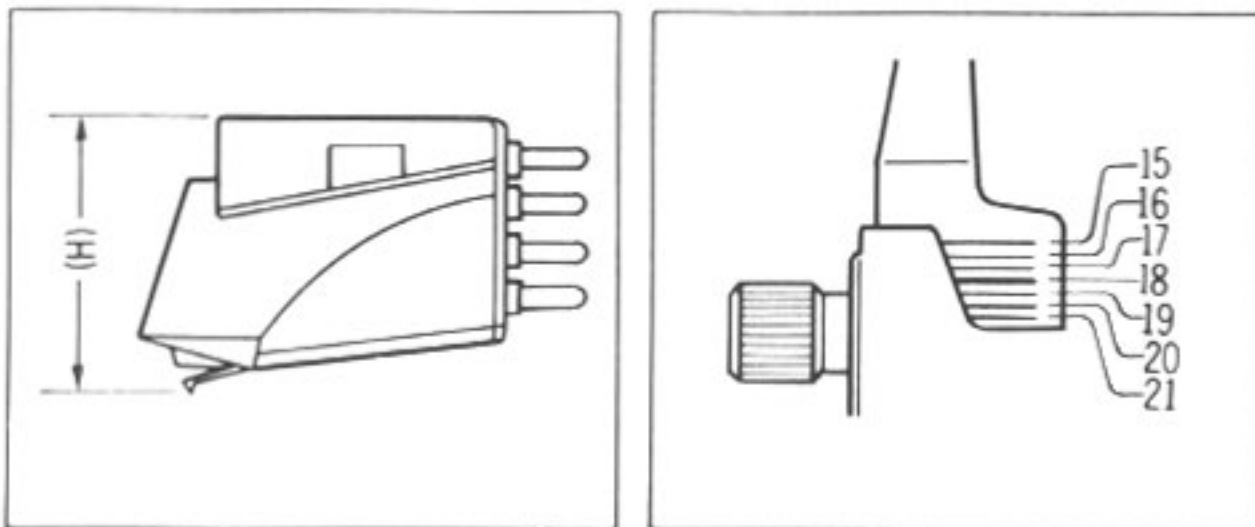

Fig. 12
- If the cartridge height is 18 mm as shown in figure 11, align the fourth line ("18") on the gimbal support portion with the arm base edge as shown in the picture. (See Fig. 12)